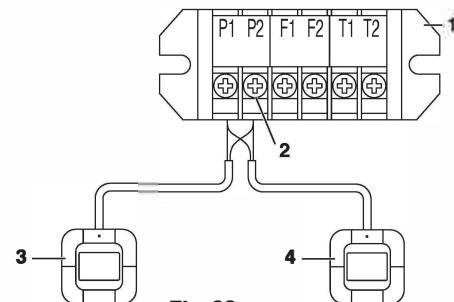

Fig. 26
- When using the group control and the 2 remote controllers control at the same time, connect the remote controller 2 (Sub) to the indoor unit at the end of the crossover wiring (the largest No.). (Refer to Fig. 26)